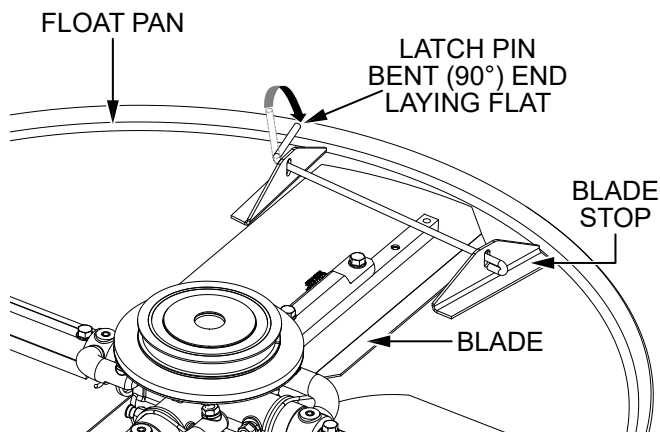

Figure 26. Latch Pin Placement
4. After it has been routed through the blade stop holes, rotate each latch pin so the end that is bent approximately 90 degrees lays flat on the surface of the float pan. See Figure 26.